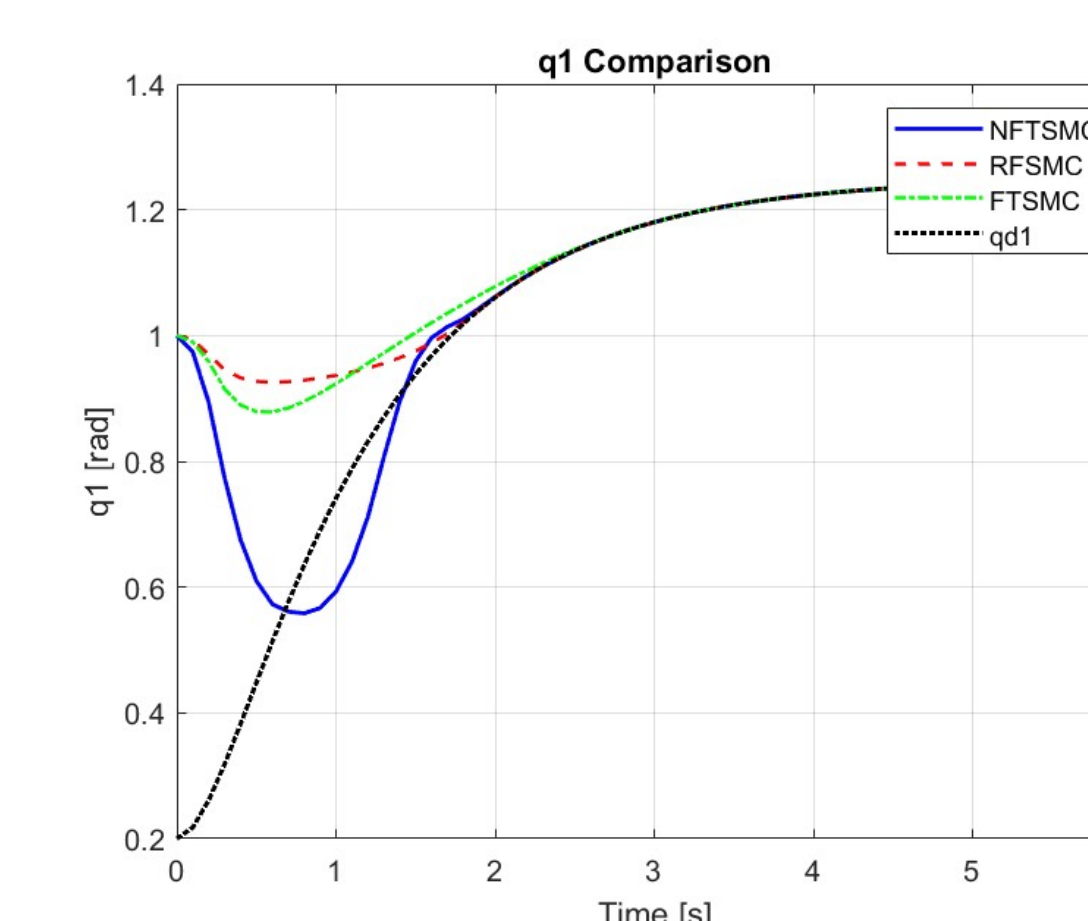

Figure 4. Joint 1 vs. time
- Figure 4 and 5 respectively show joint 1 and joint 2 vs. time.